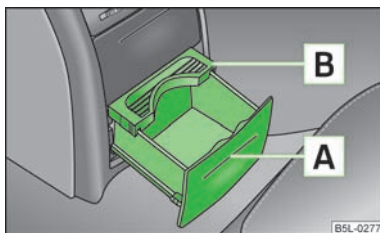

Fig. 65
- » Press on the panel in the area **A** » Fig. 65 - the cup holder comes out.